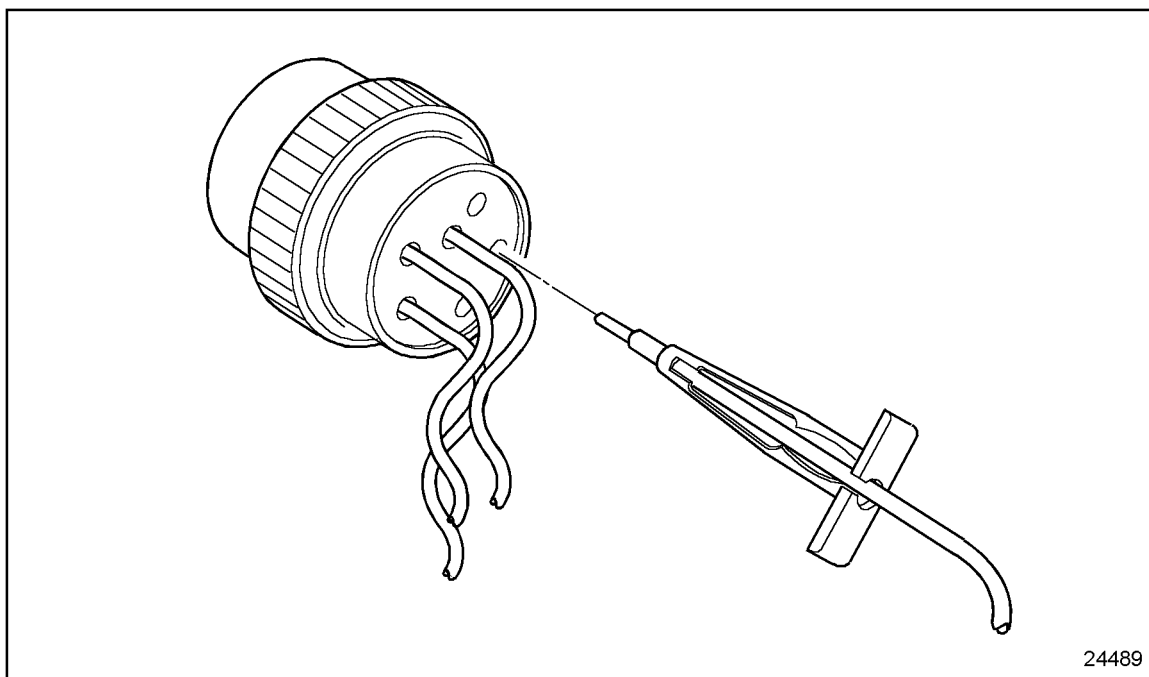

Figure 8-22 Removal Tool Insertion
2. Slide the tool along the cable into the insert cavity until it engages and resistance is felt. Do not twist or insert tool at an angle. See Figure 8-22.